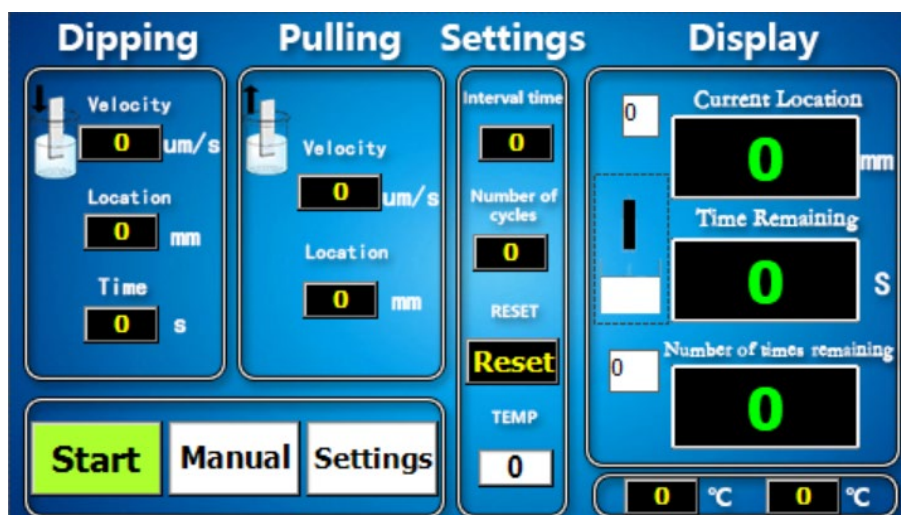

Fig 7 Auto Setup Interface
- **Next:** after completing the manual setting of the upper and lower limits, click  to enter the “Auto Setting Interface”, shown as Fig 7.
Set the parameters in the "Auto Setup Interface", operate following fig 7 and its description.